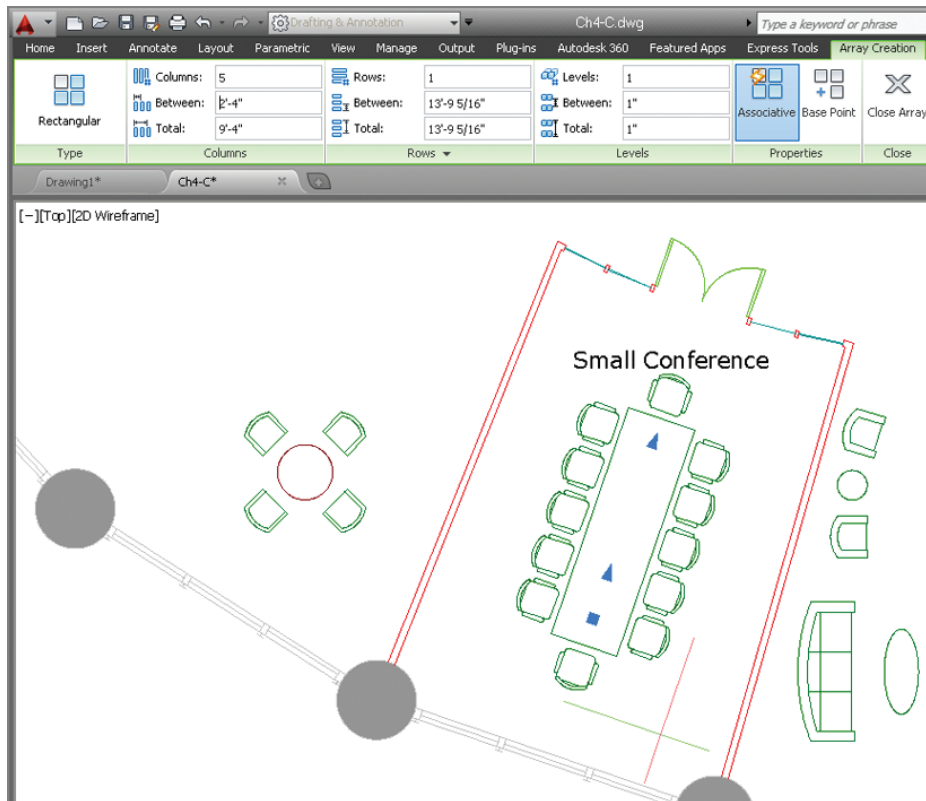

FIGURE 4.19 Creating a rectangular array by changing parameters on the ribbon
4. Change Columns to 5 and Rows to 1 on the temporary Array Creation tab that appears on the ribbon. Type **2'-4"** in the Between text box in the Columns panel (see Figure 4.19). Depending on which side of the line you selected in the previous step, you might have to enter 1 Column and 5 Rows if the UCS is 180 degrees out of phase.